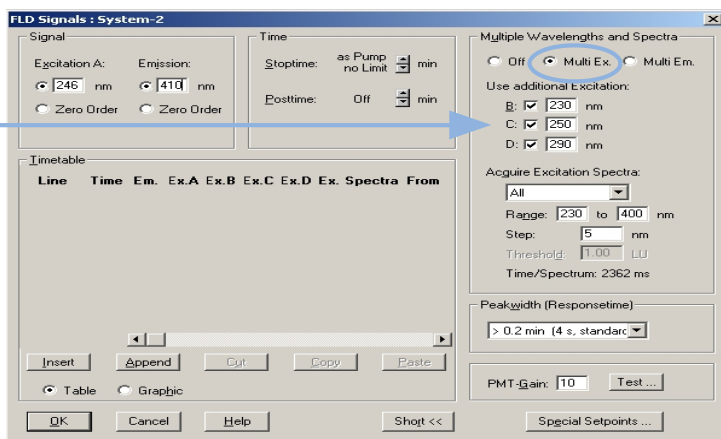

Figure 29 FLD Parameters
- 2 Set the FLD setpoints according to Figure 29 on page 80.